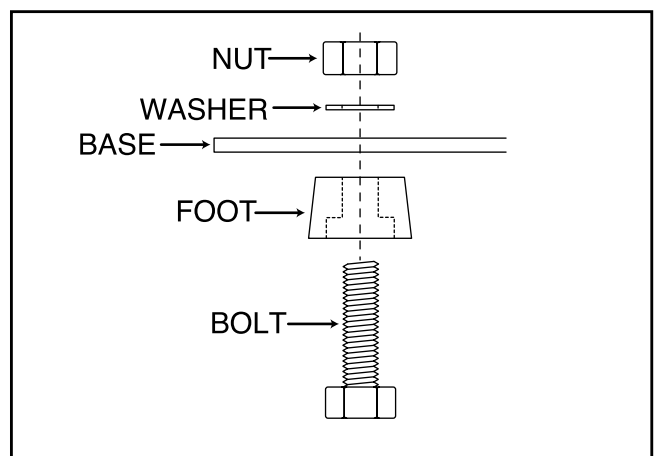

Figure 3. Order of foot attachment.
1. Attach the four (4) rubber feet to the base using the four (4) $\frac{1}{4}$ " - 20 x 1" hex bolts, four (4) $\frac{1}{4}$ " flat washers and four (4) $\frac{1}{4}$ " - 20 hex nuts. Be sure that the bolts protrude upward through the base. **See Figure 3.**